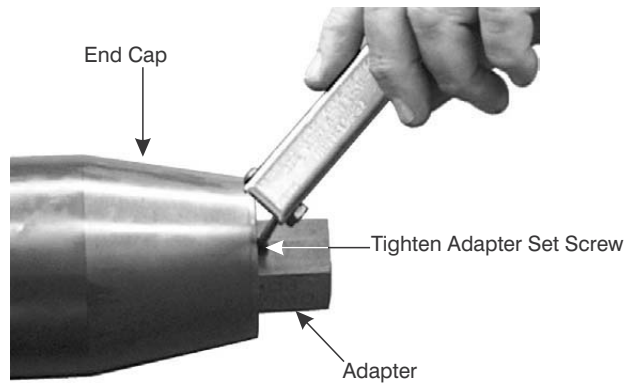

Figure 9-21. Tighten Set Screw.
8. Insert the Cone Point Set Screw (12) and tighten to prevent the Adapter from backing off of the Valve Stem. See Figure 9-21.